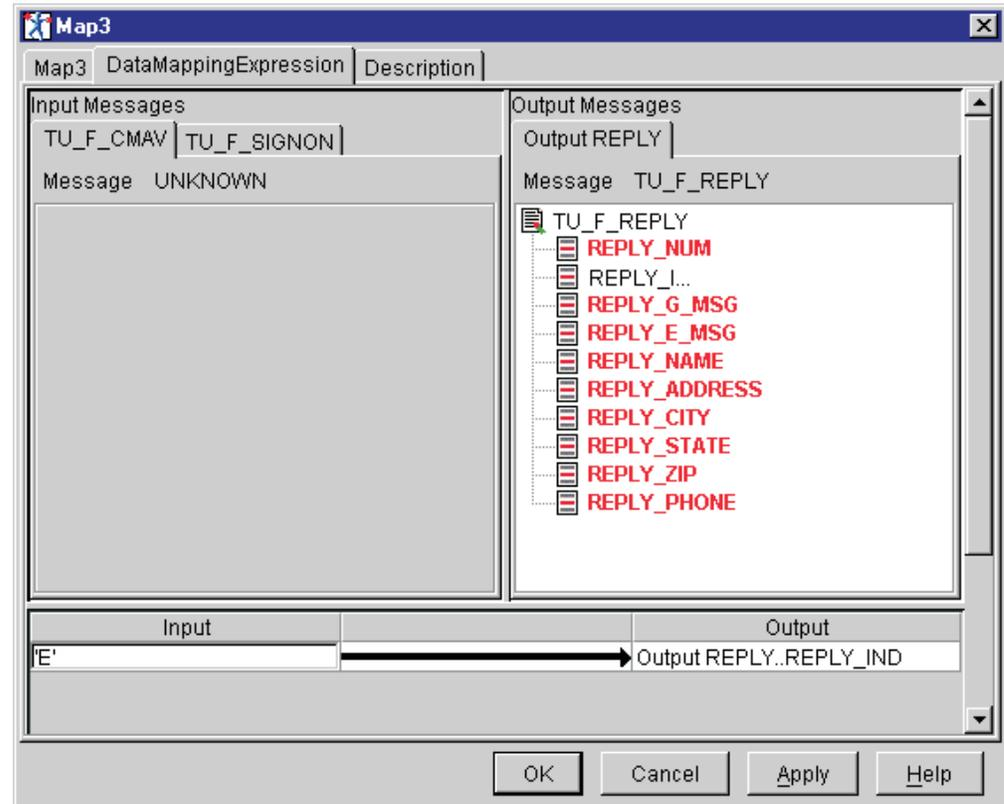

Figure 122. Mapping for Map3 node
- 3) Perform the mapping for the Map3 node as listed in Table 56 on page 161 and shown in Figure 122 on page 161. This map sets the REPLY\_IND to 'E' to indicate a bad signon.